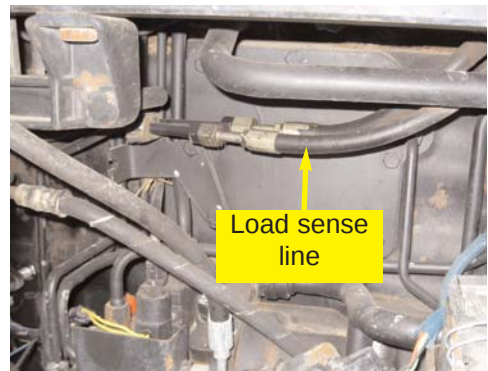

Figure 4b. Load sense line.
- b. Locate the load sense line on the right side of the tractor by the pressure line. (Figure 4b.)